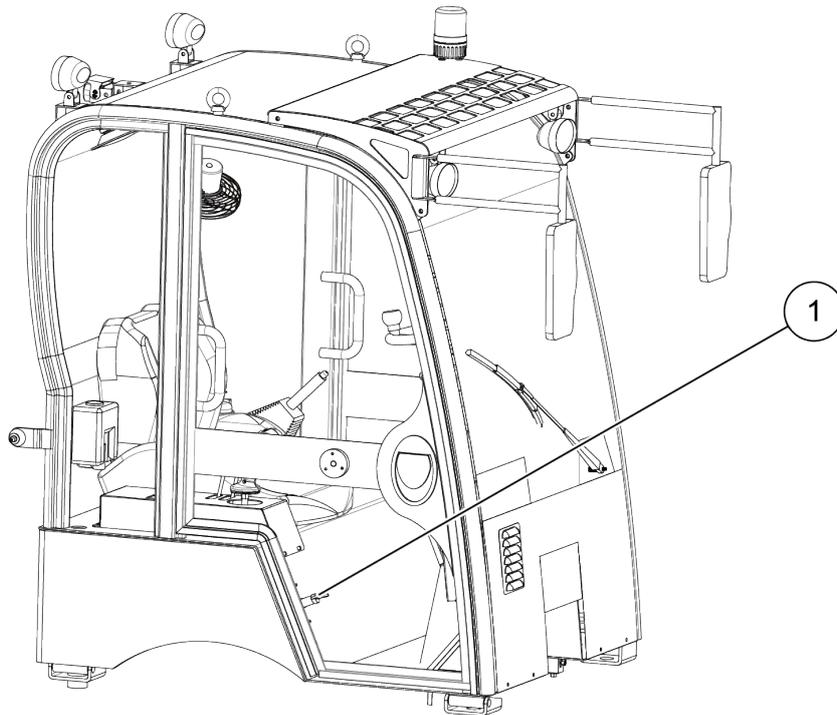

Figure 5-24 Cab
Step 1: Turn on the power switch (1) in the cab, as shown in Figure 5-24;